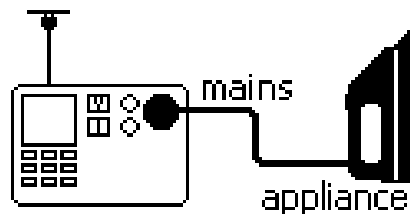
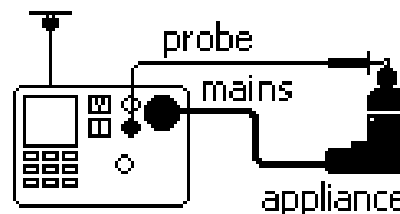

Figure 7. Substitute Leakage Test Connections Cl. I
Figure 8. Substitute Leakage Test Connections Cl. II
- Connect the appliance and the test probe as indicated on the display, see fig. 7 and fig. 8.